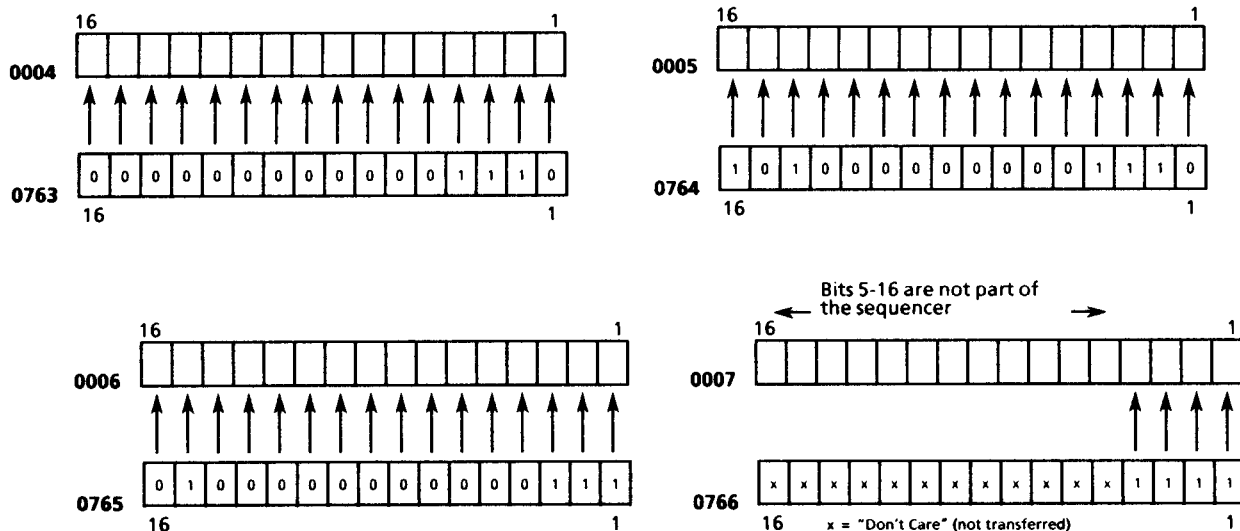

Figure 11.10 Transfer Of 52-Bit Output Width
0762 (D12)	Input Condition Advance. Assume a step advance is enabled when bits 1, 3 and 4 of register 0001 are set to "1". Preset to 13 (decimal value. For corresponding binary pattern, see Figure 11.10).
- 2A. If the output width in this example was specified as 52 instead of 12 (register 0756 = 52), additional output registers would be used. As shown in Figure 11.10, all 16 bits of registers 0763, 0764 and 0765, along with bits 1 through 4 of register 0766 are written to registers 0004, 0005, 0006 and the first four bits of 0007. If the bit patterns of Figure 11.10 are involved in a transfer, it is necessary to preset register 0764 with the decimal value -24,562 (A00EH), register 0765 with decimal 16,391 (4007H), and register 0766 with decimal 15 (000FH). These settings allow the multi-register transfer to take place.